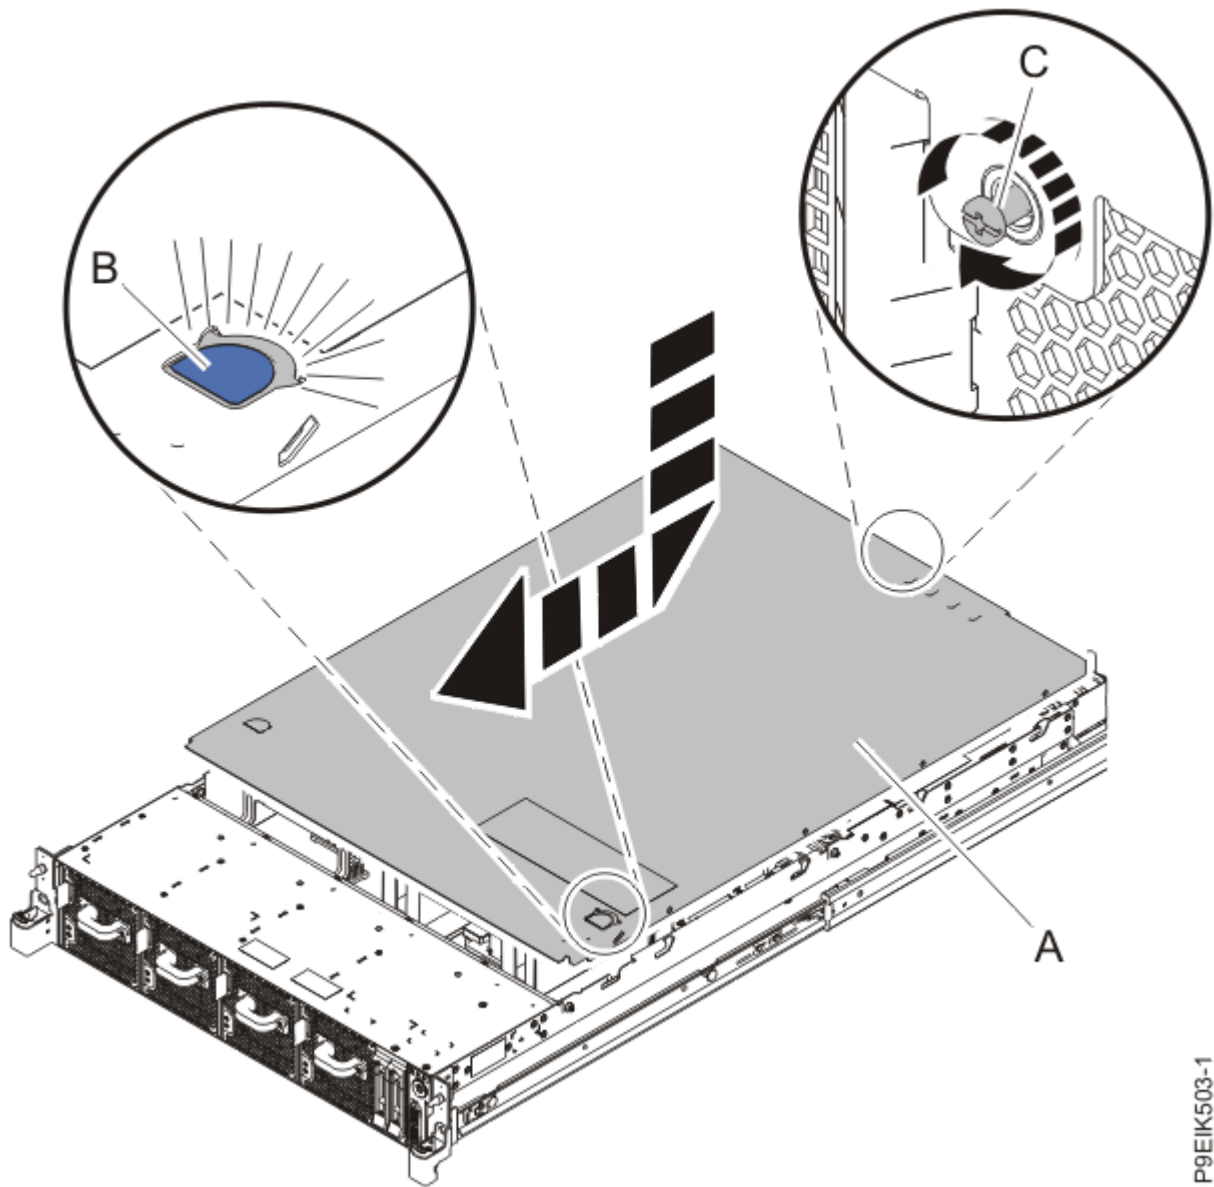

Figure 27. Installing the cover
1. Place the cover (A) on the system unit such that the alignment pins on the cover are aligned to the slots on the chassis. Slide the cover to the front of the system until the blue release latch (B) locks in to place as shown in Figure 27 on page 39.
2. Fasten the cover screw (C) at the rear of the cover.